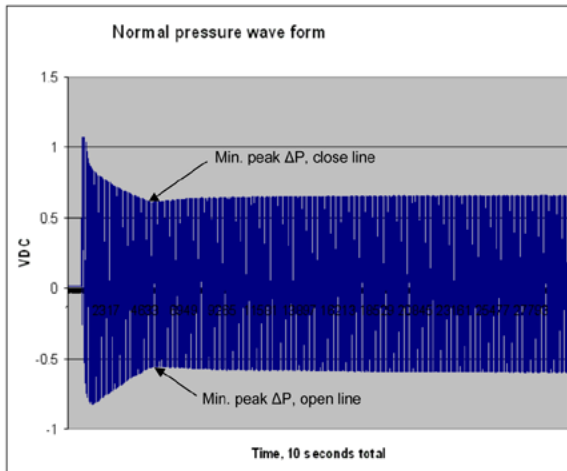

Figure 4-32 Normal Pressure Signal Sample
- NOTE: The captured image must be similar in appearance to Figure 4-32. If necessary to recapture the waveform, repeat steps 12.9 and step 12.10. Depressing the footswitch treadle when the Scopemeter sweep reaches the end of the Scopemeter display helps the waveform to begin at the beginning of the next sweep.**
- 12.11 Refer to waveform samples in Figure 4-32 and Figure 4-33, and determine if the waveform is normal or abnormal.
12.12 Refer to Figure 4-32 for Min. Peak locations. Use the horizontal cursor near the top of the screen to note the Min. Peak Close value.